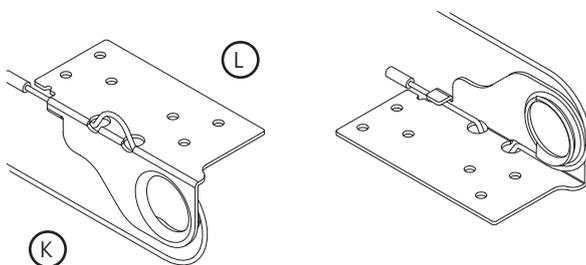

Fig: 2.2.1
- Insert each lifting cable (K), through the holes of the left and right bottom hangers (L) Fig 2.2.1.